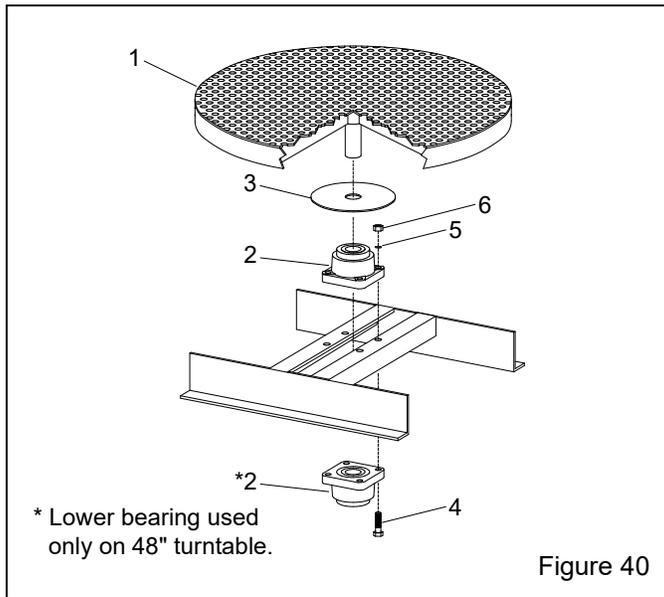

Figure 40
**Fixed-Base Turntable with Bearing, 500 lb. Capacity – Figure 40**